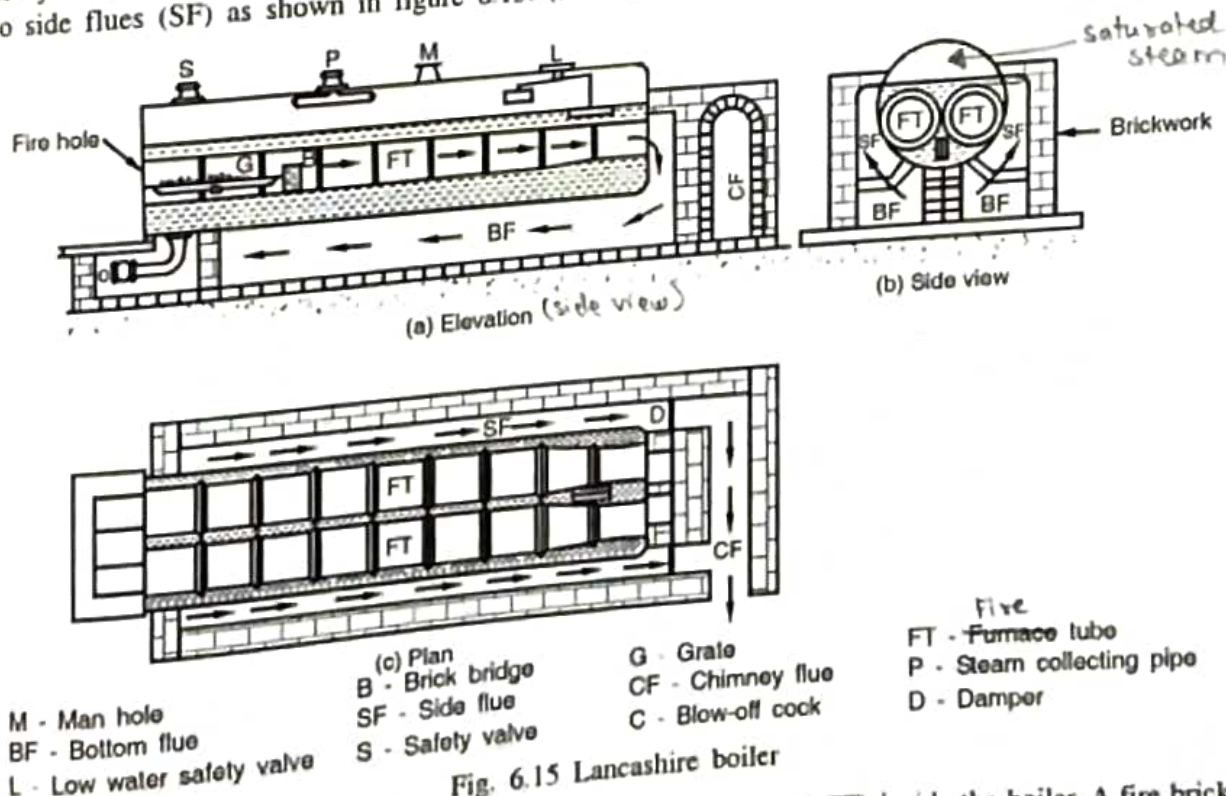

Fig. 6.15 Lancashire boiler
The cylindrical shell is placed over the brick structure. The brick work also forms one bottom flue (BF) and two side flues (SF) as shown in figure 6.15. (A flue is a channel for flow of gases).